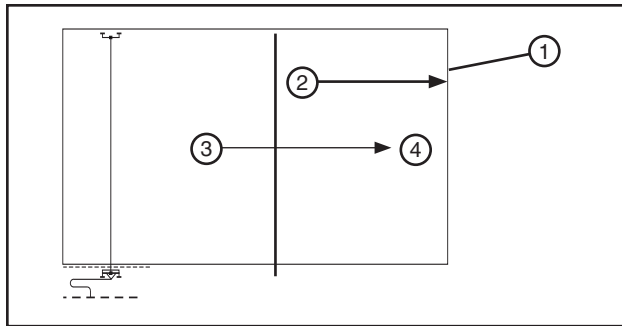

Figure 38-1 1. Field
1. The percentage timer is set at the desired application rate and the system is started at one end of the field and run wet (irrigating) to the other end of the field. See figure 38-1.
2. The system is stopped until the field has dried sufficiently before running the system back to the original end of the field. See figure 38-1.